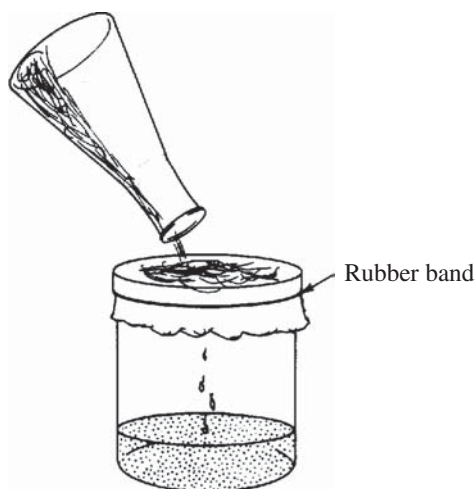

Figure 40.2
2. Filter the mixture into a 100-mL beaker by pouring it through a cheese cloth which is fastened with a rubber band over the mouth of the beaker (Figure 40.2). Remove most of the water from the precipitate by squeezing the cloth gently. Discard the filtrate in the beaker. Using a spatula, scrape the precipitate from the cheese cloth into the empty flask.